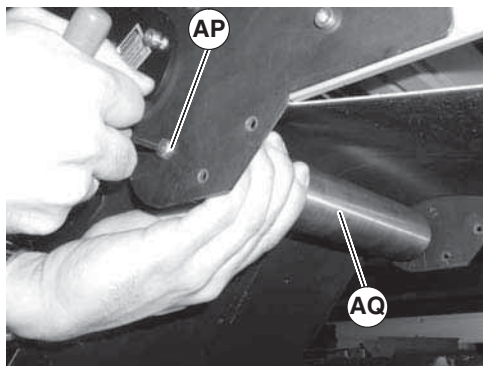

Figure 77
2. Push in hex posts (Figure 77, item AP) and remove pulley (AQ).